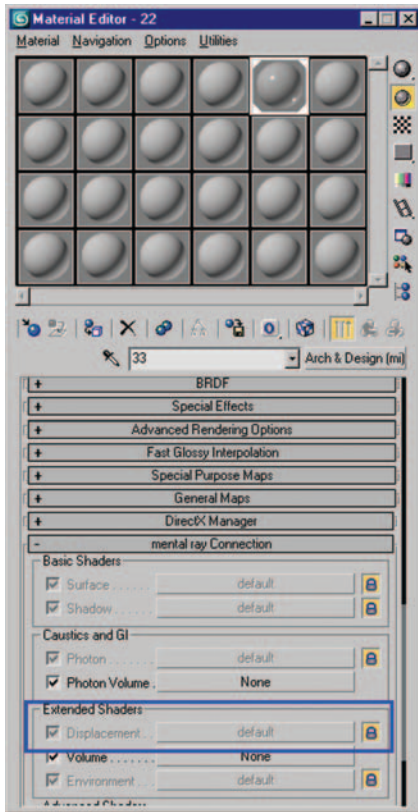

Figure 11.50 Material Editor with Displacement slot highlighted.
- In the Extended Shaders box you should see Displacement listed. Displacement is grayed out with a small yellow Lock icon next to it. Figure 11.50 shows the Material Editor with the mental ray Connection rollout opened and the Displacement slot highlighted.